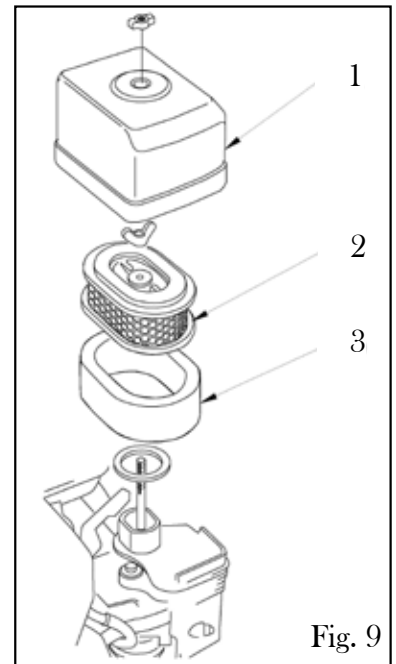

Fig. 9
1. Remove air cleaner cover (Fig. 9 - 1). Remove both elements and inspect them for holes or tears. Replace damaged elements.
2. Tap paper element (Fig. 9 - 2) lightly to remove excess dirt. Replace paper element if it appears heavily soiled.
3. Wash foam element (Fig. 9 - 3) in solution of mild detergent and warm water. Rinse thoroughly in clean water. Allow element to dry thoroughly. Soak element in clean engine oil and squeeze out excess oil.